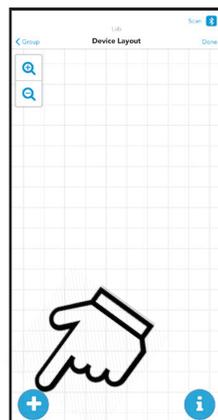

Figure 11: Device Layout
2. The **Device Layout** screen will open. Tap the **+** icon on the bottom left of the grid (Figure 11).